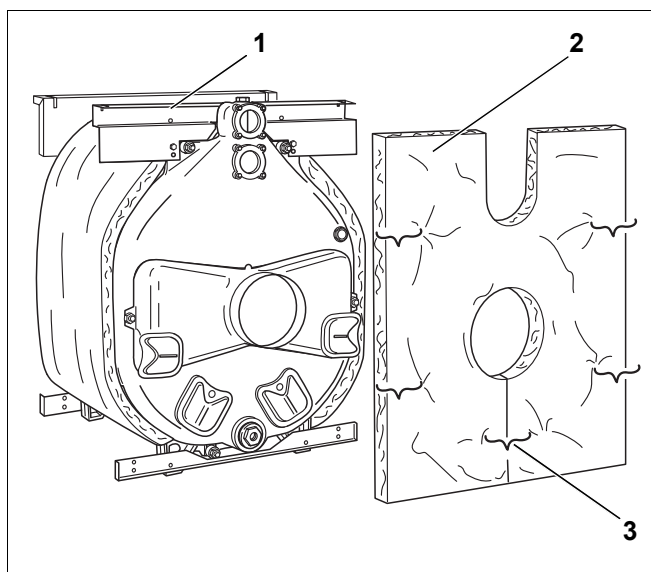

Fig. 33 Installation of thermal insulation at the rear section
- Slide the thermal insulation for the rear section (Fig. 33, [2]) onto the flue gas coupling. Ensure that the cut-out for the boiler flow and return points upwards.
- Hook the thermal insulation for the rear section into the upper cross support bracket using two spring hooks (Fig. 33, [1]).
- Close the gap below the flue gas coupling with spring hooks (Fig. 33, [3]).